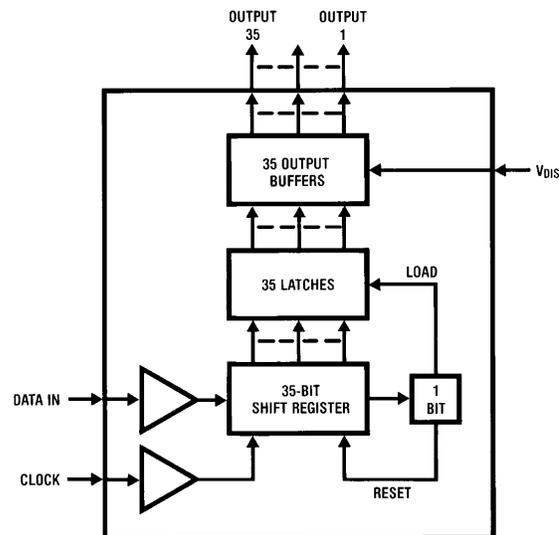

FIGURE 1
This product is specifically designed to drive multiplexed or non-multiplexed high voltage alphanumeric or dot matrix vacuum fluorescent (VF) displays. Character generation is done externally in the microprocessor, with a serial data path to the display driver. The MM58248 uses two signals, DATA IN and CLOCK, with a format of a leading '1' followed by the 35 data bits, hence allowing data transfer without an additional signal. A block diagram of the MM58248 is shown in Figure 1.